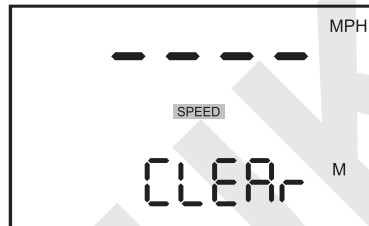

Figure 15: Initial Speed Measurement Screen
4. Release the TRIGGER. Display will change to the Speed Measurement Screen, see figure 15 on page 12.
4. Release the TRIGGER and the BACKLIGHT button. The display will change to the Speed Measurement Screen, see Figure 15 on page 12.
When you power ON the UltraLyte 1000, the screen display should look similar to Figure 15.